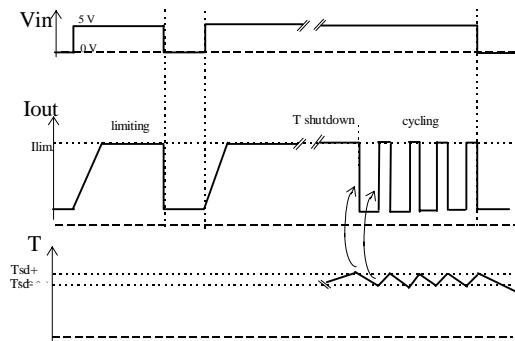

Figure 2 - Protection timing diagram
| T_{sd+} | Over-temp. positive going threshold | — | 165 | — | $^\circ C$ | See fig. 2 |
| T_{sd-} | Over-temp. negative going threshold | — | 158 | — | $^\circ C$ | See fig. 2 |
| V_{sc} | Short-circuit detection voltage (3) | 2 | 3 | 4 | V | See fig. 2 |